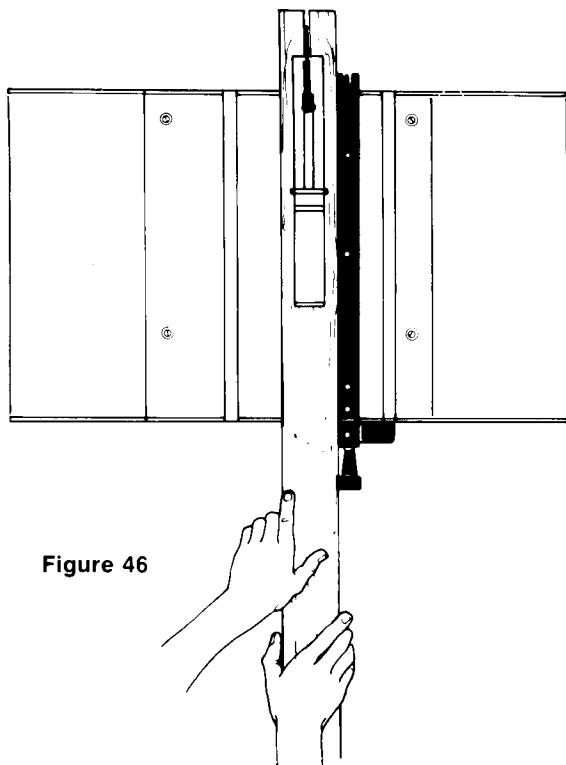

Figure 46
USING THE RIP FENCE figures 46 & 47
Ripping is cutting with the grain of the wood. You may rip on either side of the blade because the table accepts the fence on either side. A simple ripping operation is shown in **figure 46**, notice the placement of the hands. Both hands can be used in starting the cut. When there is approximately twelve (12) inches left to be ripped. . . use only one hand, with your thumb pushing the material, your index and second finger holding the material down and your other fingers hooked over the fence as shown in **figure 47**. Always keep your thumb along side your first two (2) fingers and near the fence.